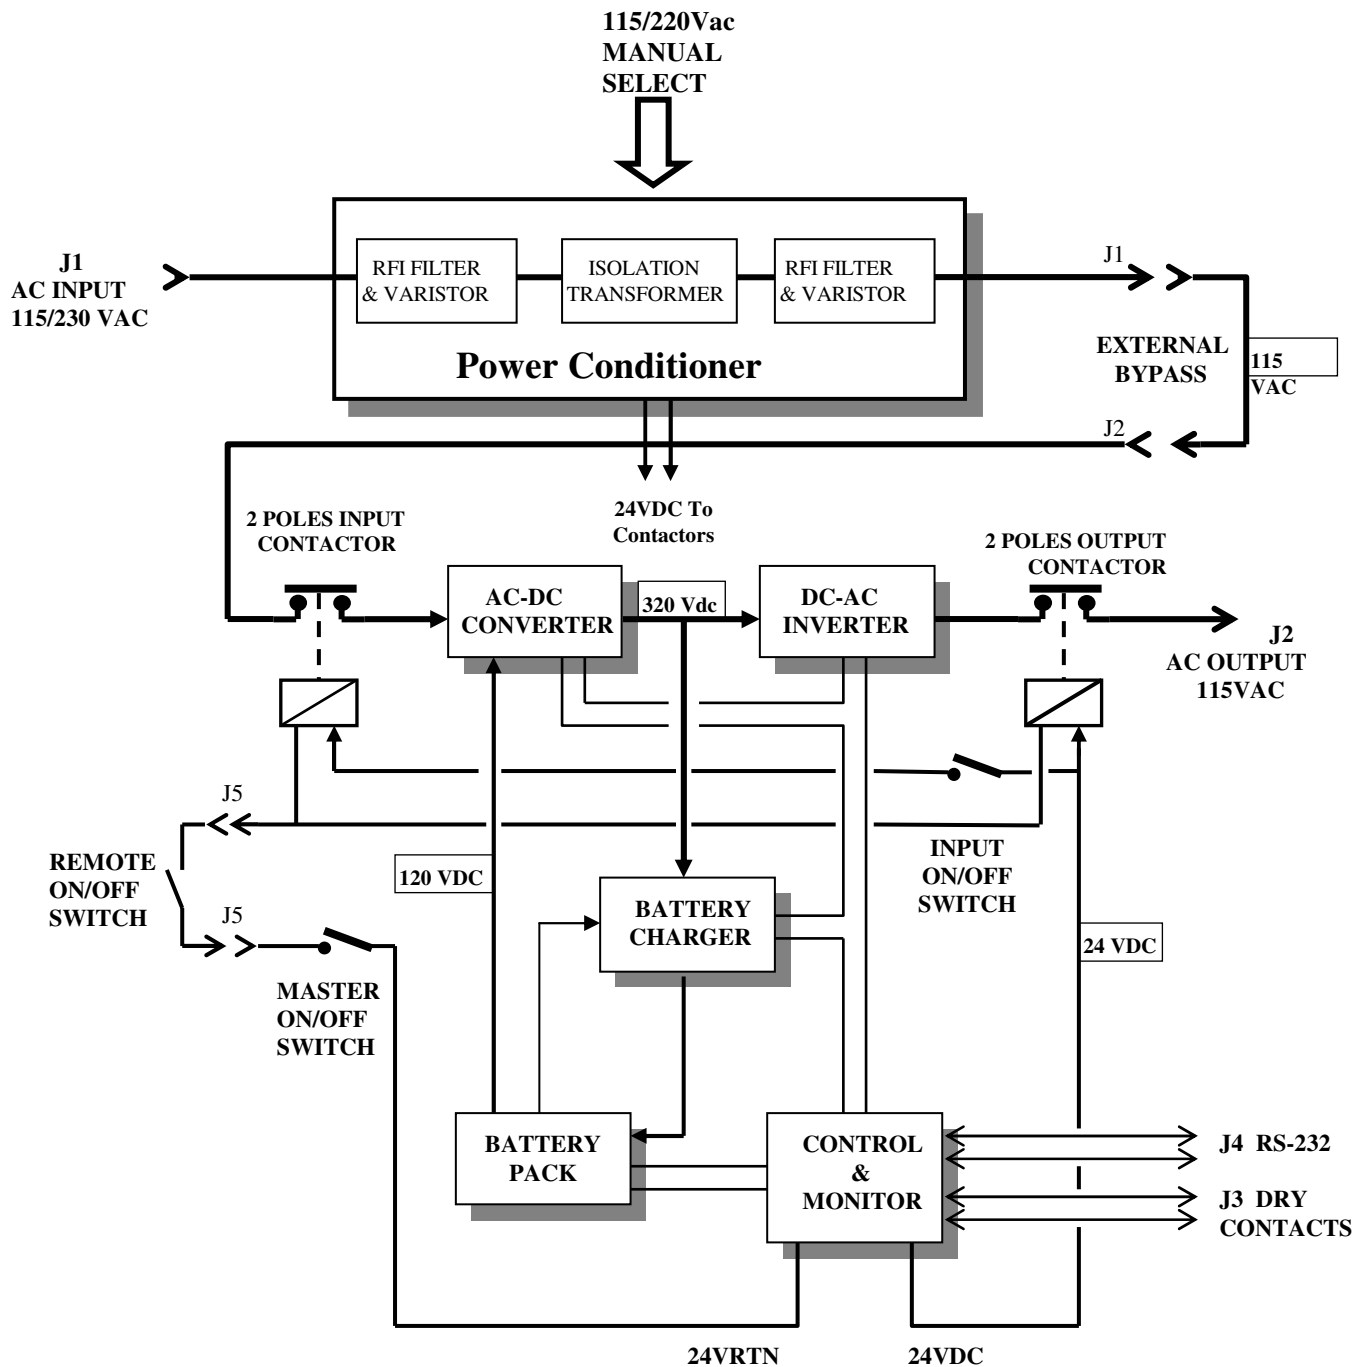
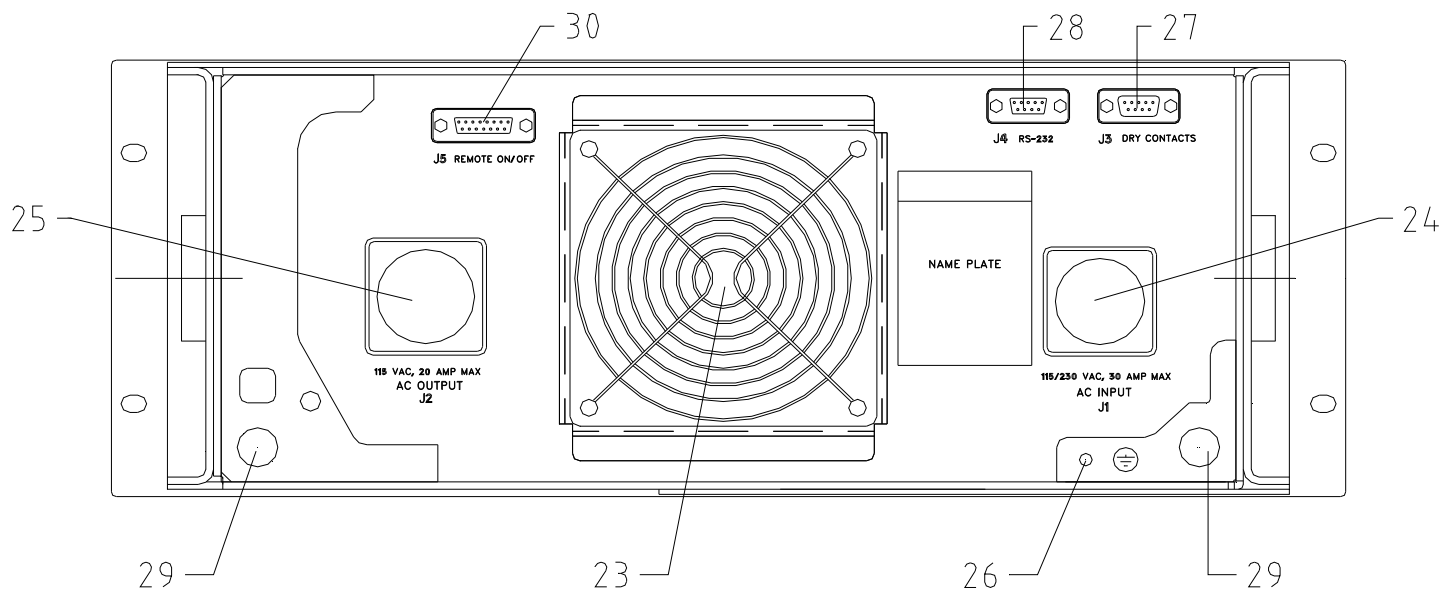

Figure 1: PTC-0140BA-1 Block Diagram
Figure 6 - Rear Panel
The PTC-0140BA-1 consists of two main sections: Power Conditioner and UPS Section (see Fig. 1). The Power Conditioner is an isolation transformer with RFI filters and spike absorbers. Both the input and output of the Power Conditioner are available to the user via the external connectors of the unit. This configuration allows the user to externally bypass the UPS section of the PTC-0140BA-1 without losing the galvanic isolation, the surge protection and the noise filtering provided by the Power Conditioner. In standard shipboard electrical systems, both AC lines are HOT and none may be grounded. In contrast, most standard commercial equipment is designed to operate safely only from a grounded AC source. The Power Conditioner (in both UPS Mode and By-pass Mode) allows the safe connection of commercial equipment, without creating a safety hazard.
Two circular connectors (J1 and J2) are provided on the rear panel of the UPS (see Figure 6). J1 is the input connector to the Power Conditioner section of the unit. J2 carries the output of the Power Conditioner and both input and output of the UPS section. (Please refer to Fig. 1 for the definitions of the Power Conditioner and the UPS sections.)
5. Rear Panel Description (See Figure 6)